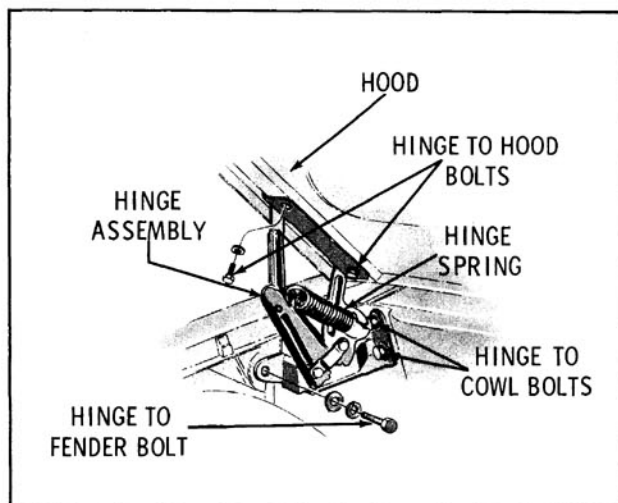

Fig. 15-8 Hood Hinge Attachment
1. Raise hood and loosen hinge bracket to cowl bolts and the hinge bracket to fender bolt on each side of car. (Fig. 15-8) For fore or aft adjustment, loosen hood hinge to hood bolts.
3. Remove hinge to hood bolts on each side of hood. (Fig. 15-8)